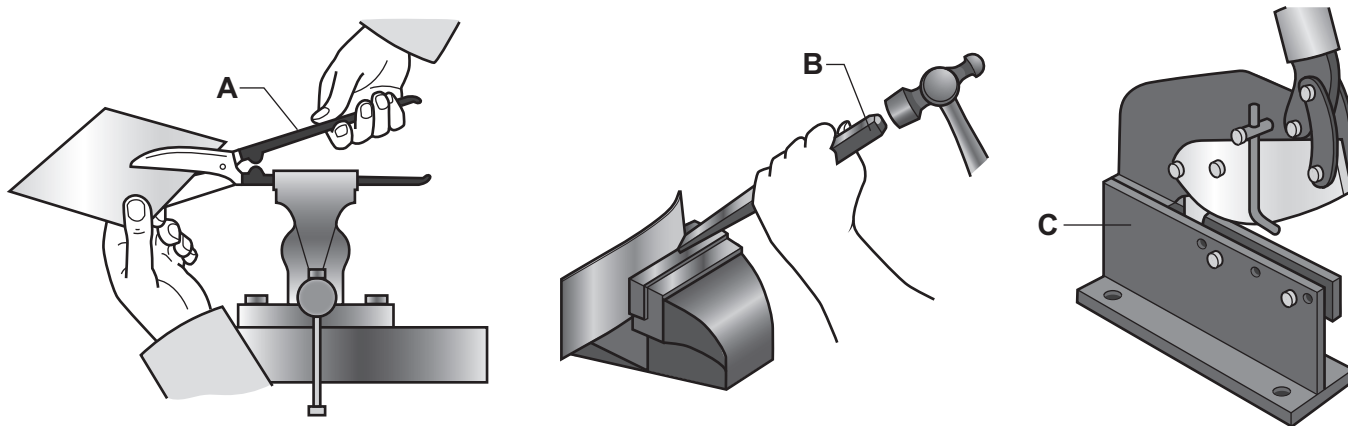

Fig. 1.1
- 1 Fig. 1.1 shows three tools, **A**, **B** and **C**, that can be used to cut sheet metal.